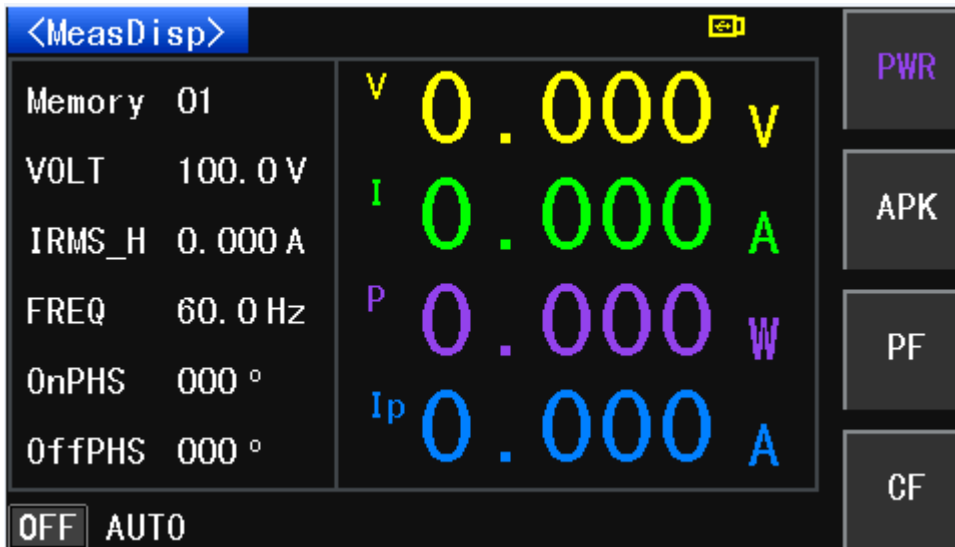

Figure 3-4 MESA3 Key
This soft-key is used to configure the parameters required for MESA3, press this soft-key to select the power (PWR)、peak current (APK)、power factor (PF)、crest factor (CF). Please refer to figure 3-4